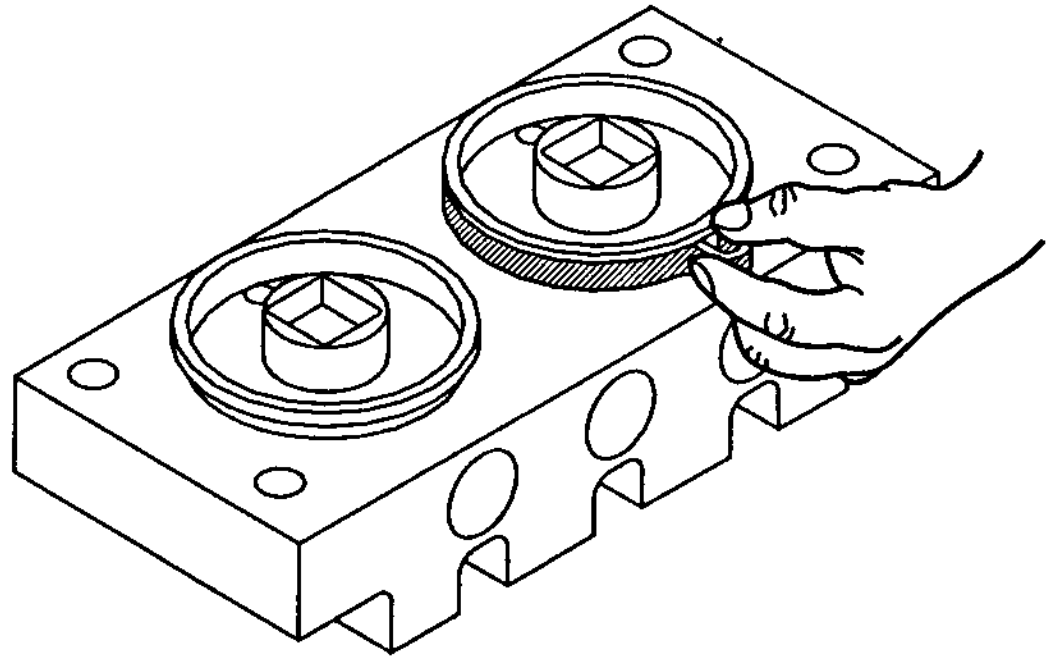

Fig. 8
- Remove the dasher assembly (Fig. 8) being careful not to damage the scraper blades, then disassemble in the following manner:
- c. Remove both front plate gaskets by placing your thumb and forefinger as shown in Fig. 8 and squeeze until a loop is formed. Then roll each gasket out of its groove.